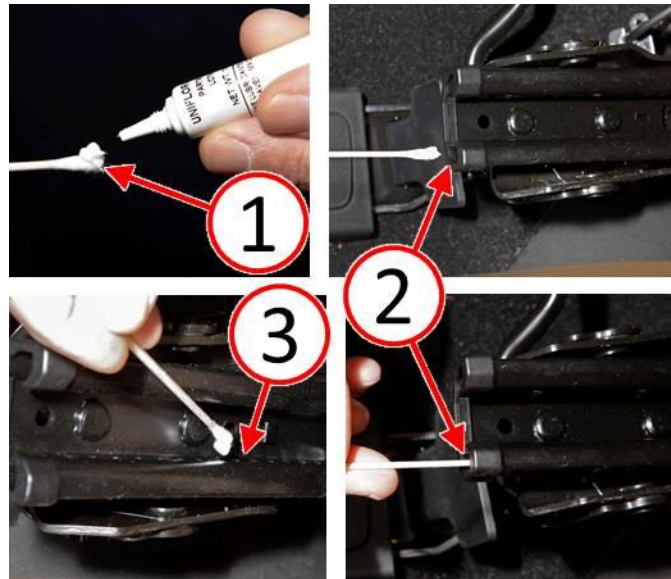
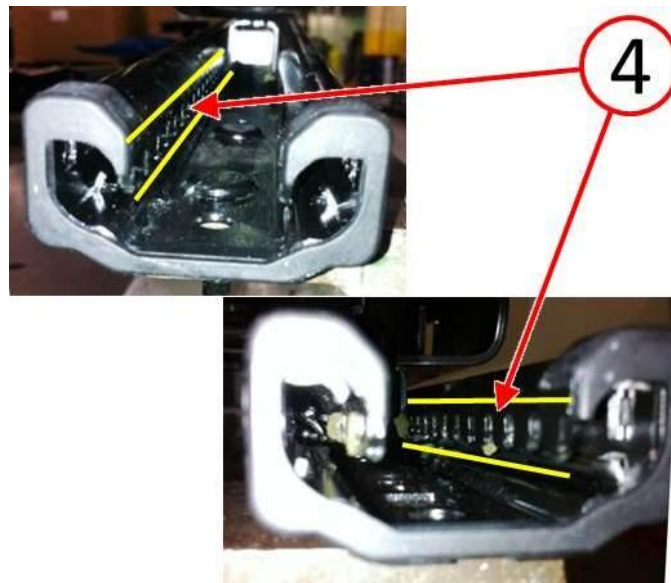

Fig. 1 Grease Application
Fig. 2 Application Area
3. Using an applicator such as a small brush or Q-Tip (1), apply Krytox grease to the exposed front portion of both seat tracks on the inside of the track teeth as far as the applicator will reach (2) and along the outside of the track teeth (3) on both sides of the lower track profile (4) (Fig. 1) and (Fig. 2).